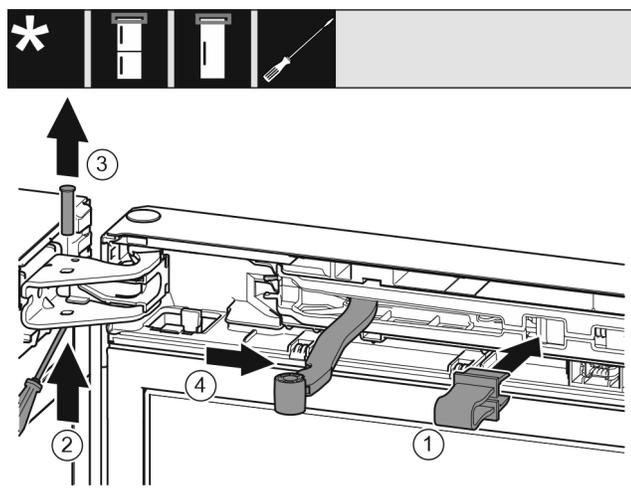

Fig. 8
- ▶ Engage the locking device in the opening. Fig. 8 (1)
- ▶ Unscrew the bolt with a screwdriver. Fig. 8 (2)
- ▶ Remove the bolt upwards. Fig. 8 (3)
- ▶ Turn the hinge in the direction of the door. Fig. 8 (4)